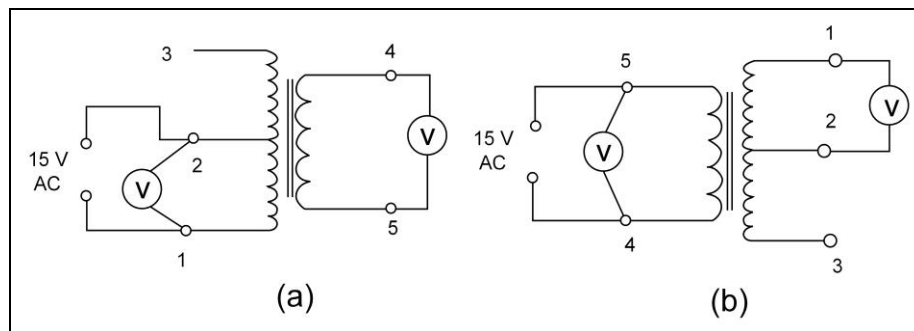

Fig. 1-4 Split Turns Ratio
20. Connect pins 1 and 2 across the 15 VAC source terminals, as shown in Fig. 1-4(a). Leave pins 3, 4 and 5 open.
24. Disconnect the transformer. Connect pins 4 and 5, as shown in Fig. 1-4(b). Leave pins 1, 2 and 3 open.